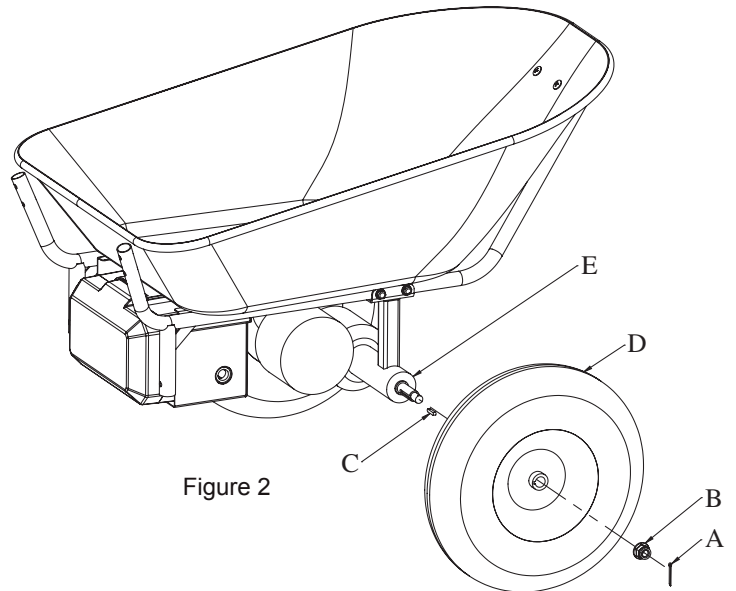

Figure 2
Fix wheels(D) on the drive axle(E) with flat washer(C), Bolts M14(B), pin 2.8x30(A). (See Figure 2)